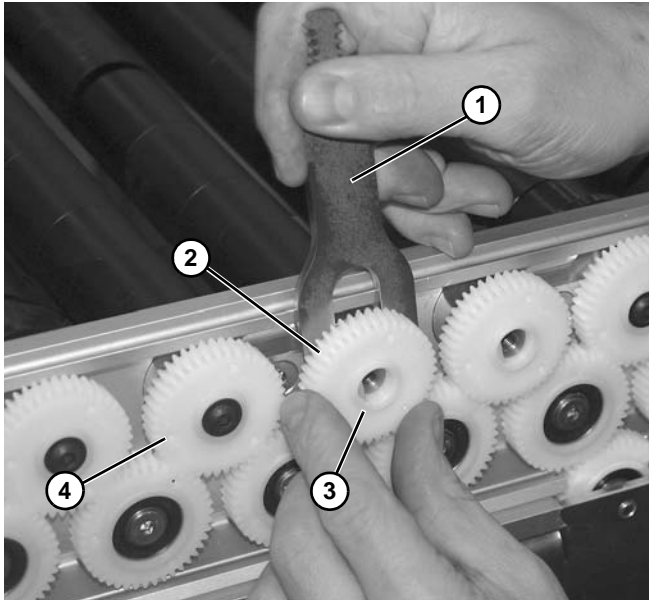

Figure 117
5. Install opposite end of sprocket removal tool (Figure 117, item 1) to pry gear (Figure 117, item 2) from roller shaft.
6. Remove the gear (Figure 117, item 2) from the roller shaft. Make note of the raised flange (Figure 117, item 3) on the gear. This raised flange should be installed toward the outside.
7. Repeat for second gear (Figure 117, item 4).